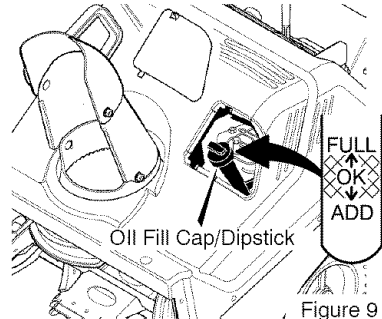

Figure 9
5. If necessary, add oil until the oil reaches the FULL mark on the oil fill cap/dipstick (see Figure 9). Do not add too much oil.